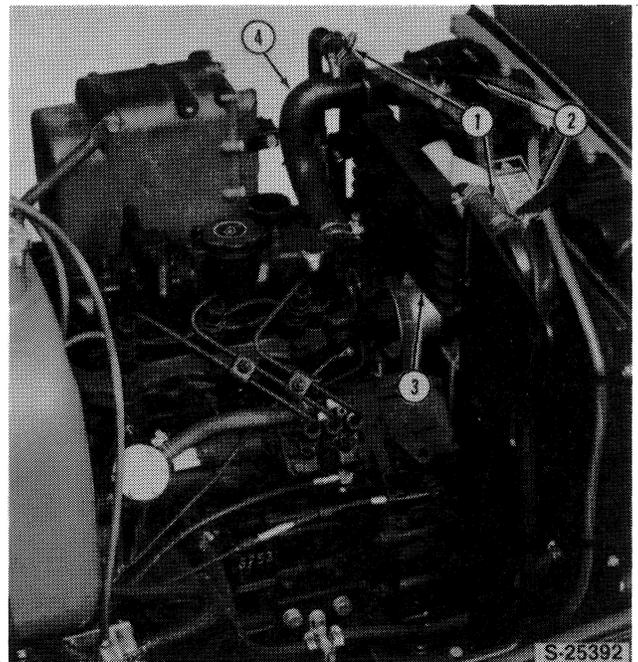

Figure 4
3. Remove the transmission oil cooler (3) and cap all openings, Figure 4.
10. Remove the upper radiator hose (4), Figure 4.